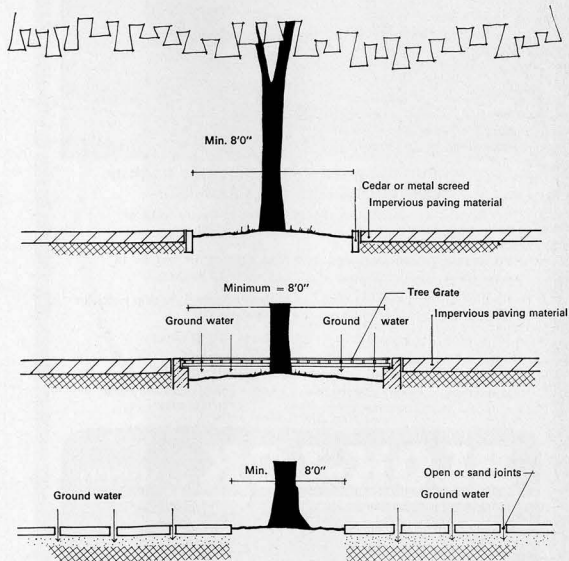

Fig. 6
- 6 Cedar screed as Figure 6 \$.75 per LF.
- 7 Metal screed as Figure 6 \$1.50 per LF.
- 8 Steel grating as Figure 6 \$4.00 per SF and up.
- 9 Wood grating as Figure 6 \$2.50 per SF